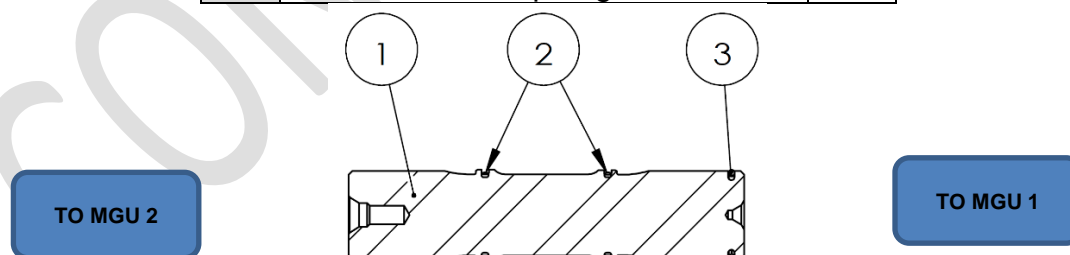
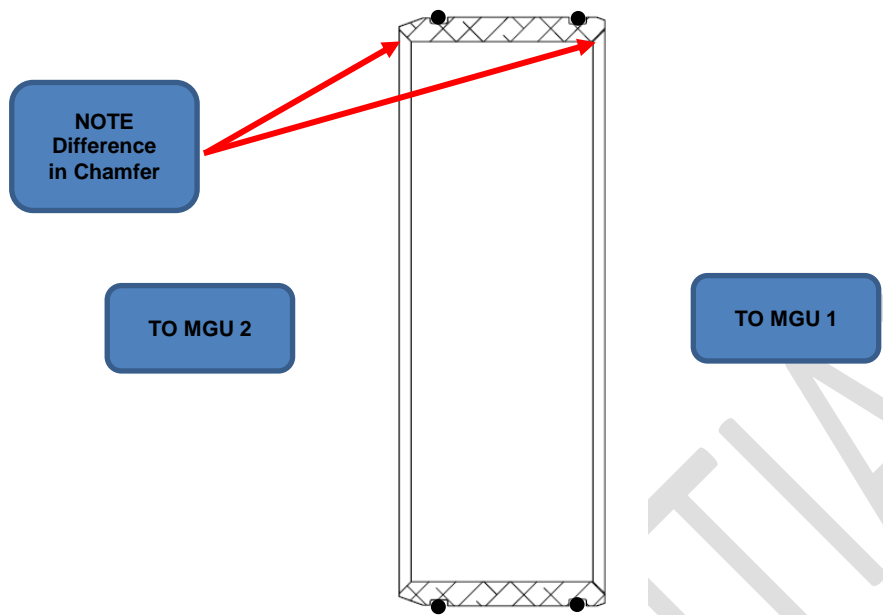

Figure 15: Connecting shaft installation with O-rings and Snap Ring
Figure 16 Connecting tube
- Firstly install snap ring (6) and O-rings (5) on connecting shaft.
- Insert connecting shaft to MGU 1 in the orientation as **Figure 15**
- Ensure the O-rings (3) had been installed in the groove on the MGU Centring Tube to the requirements specified on the customer outline drawing.
- Fix the MGU Centring Tube in the orientation as **Figure 16**